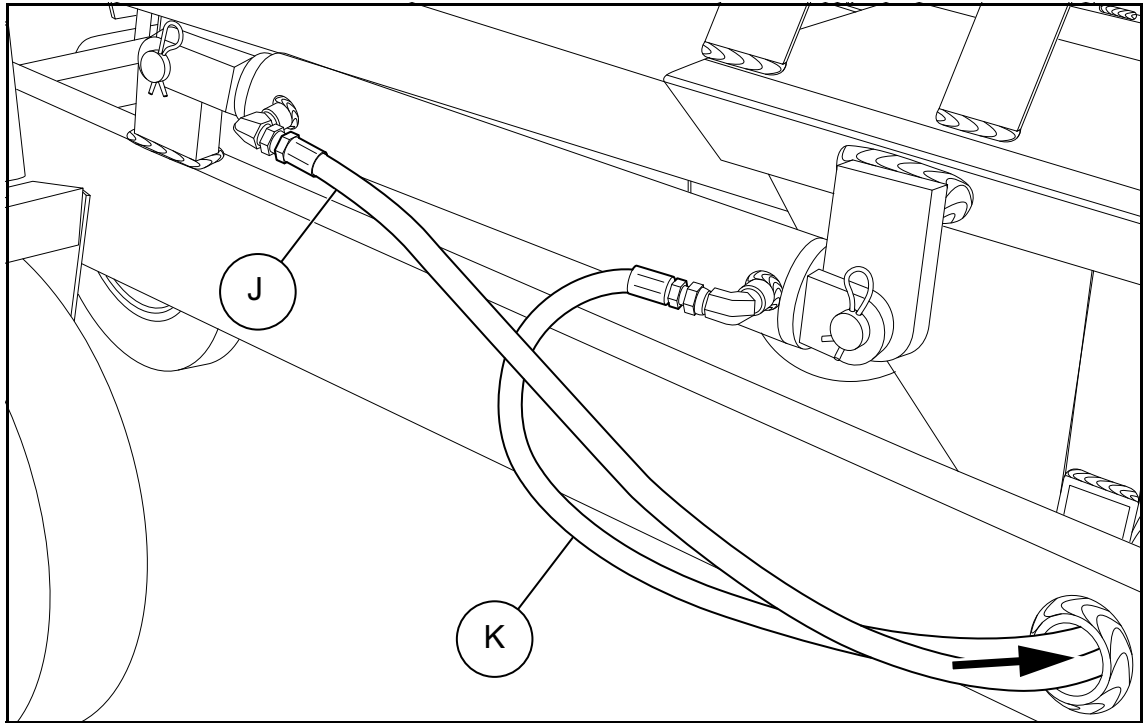

Figure 3.22 Wheel Move Cylinder
9. Attach hoses J and K to the 90-degree fittings on the wheel move hydraulic cylinder. Insert these hoses through the Cam-Lift tube toward the steering side of the wheel move (see Figure 3.22).